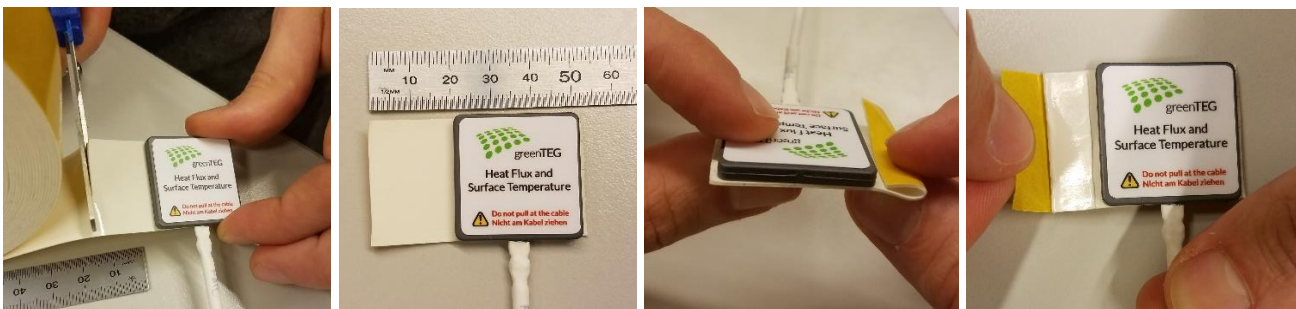

Figure 1: Left to right, Figure 1(a), 1(b), 1(c) and 1(d)
2. Mount the sensor on the exposed side of the tape. Ensure the sensor cable is perpendicular to the direction of unfurling the tape roll as shown in Figure 1(a). This is to create a removal tab towards the side of the sensor.
3. Cut an additional 2cm length of tape extending beyond the edge of the sensor as in Figure 1(b)
4. Fold back the additional length of tape onto itself to create a removal tab as in Figure 1(c)
5. Peel off the yellow protective film as in Figure 1(d) and mount the sensor onto desired surface. Firmly and evenly apply pressure on the sensor using your fingers for 4-5 seconds to ensure good adhesion. Do not apply uneven pressure on the sensor using any hard objects.